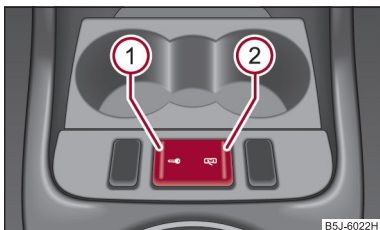

Fig. 27 Button for the central locking system
- Press button ① ⇒ **fig. 27**. The symbol  in the button comes on.
- Press button ② ⇒ **fig. 27**. The symbol  goes out in the button.